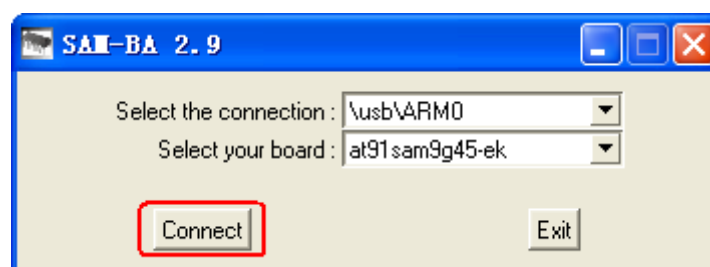

Figure 3-11
③ Click “start”->“All Programs”-> “ATMEL Corporation” -> “AT91-ISP v1.13”-> “SAM-BA v2.9” and open SAM-BA software. The dialog popped up is saw in figure 3-11: